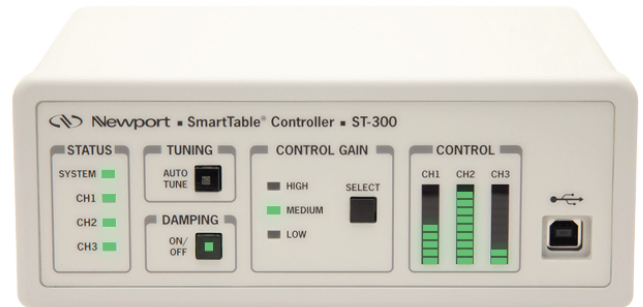

Figure 4: ST-300 Controller
10. Power the system up by depressing the power button (See figure 4 for button locations).